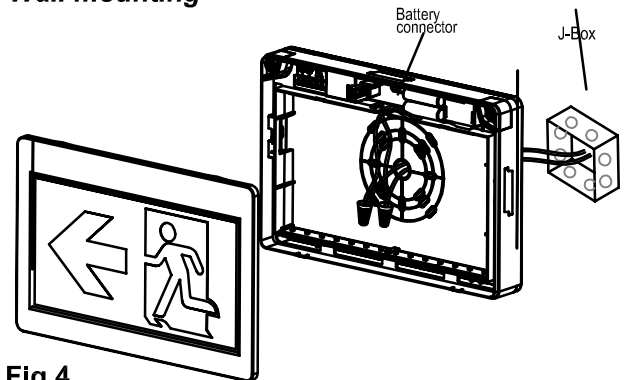

Fig 4
2. Knockout appropriate mount screw hole and cable hole, mount back plate on the wall after feed building AC supply cable into back plate(see Fig 4).
3. For ceiling and side mounting purpose, remove the mounting hole cover on the top or side of the unit (see Fig 4,5,6), assemble the canopy on the unit (see Fig 2).